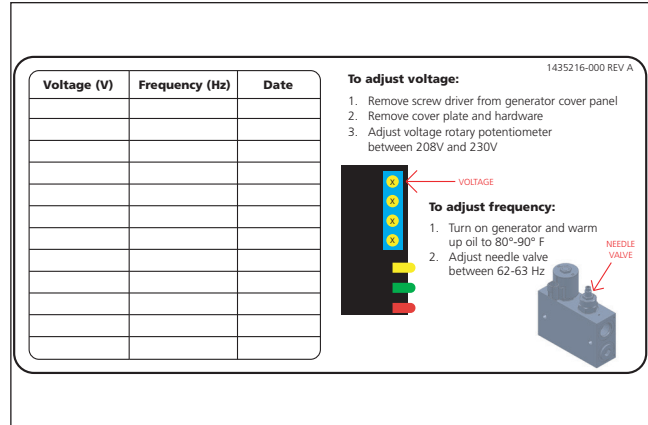

Figure 11.3 – Voltage Adjust Decal
4. Adjust the voltage rotary potentiometer (refer to Figure 11.3) to 208 V to 230 V.